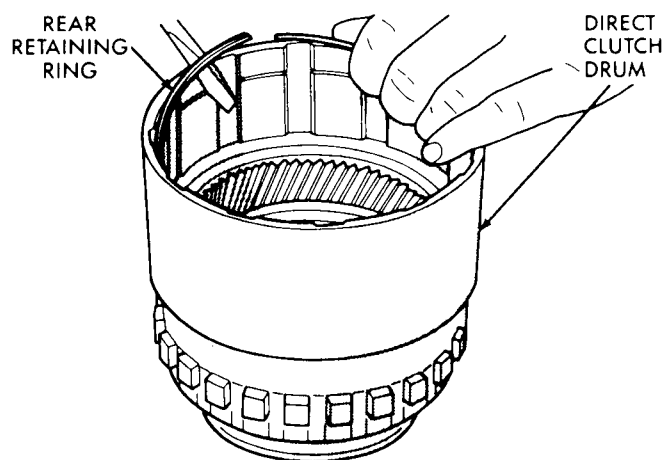
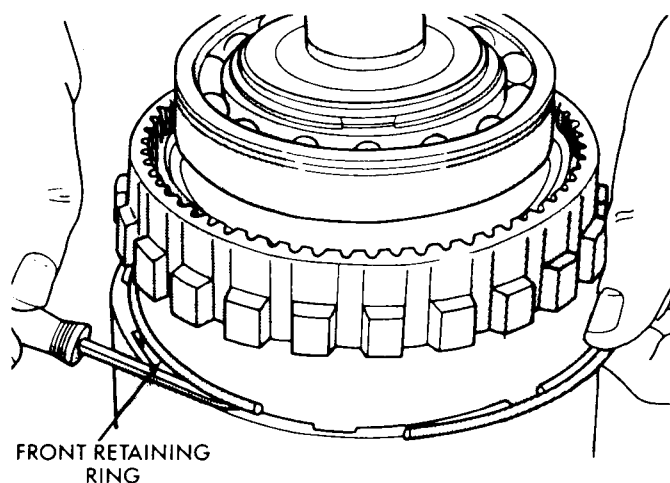

Fig. 8—Inner Retaining Ring
Fig. 9—Outer Retaining Ring
(7) Two wire retaining rings secure the direct clutch drum to the annulus. Remove the inner one first (Fig. 8), then the one behind the rear of the drum (Fig. 9). Slide the drum from the annulus.